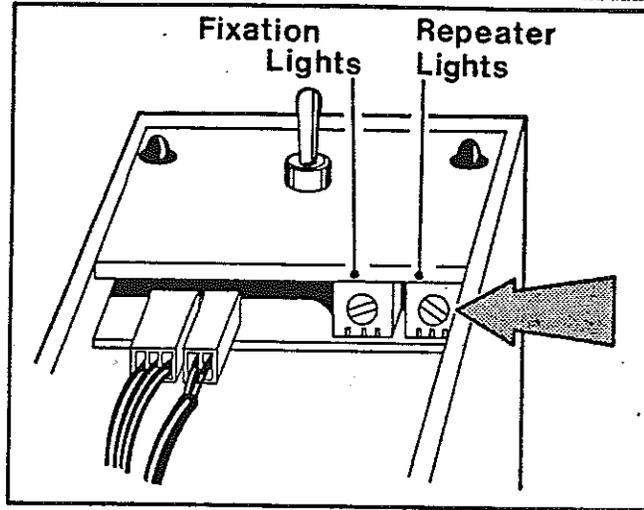

Fig. 10
- (b) The variable resistors controlling lamp brightness are located on the circuit board under the switch at the rear of the camera. The resistors themselves are small blue square components with a central screw head (Fig. 10).